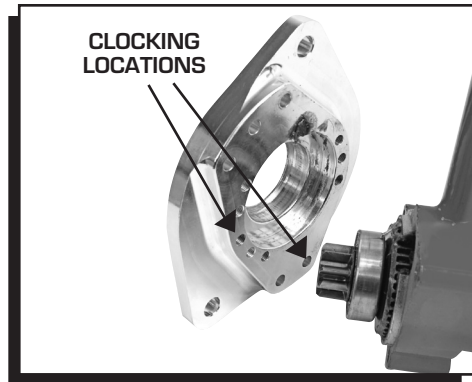

Figure 2 Clocking the Starter for Clearance.
2. Before mounting the starter, measure the distance from the front of the ring gear (engine side) to the starter mounting surface (Figure 2).